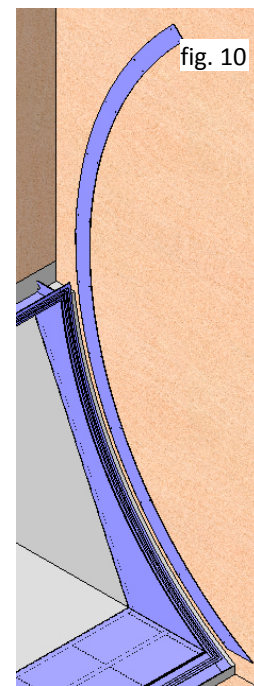

fig. 10
- Once the mouth and the bases of the turning points and the cylinder fastenings are assembled, position the rolling strips on the civil engineering work (fig. 10). It is very important to position them correctly, respecting the levels shown in the general diagram and aligning them radially relative to the turning point, since they have to coincide with the side guide wheels with the penstock both open and closed. First they must be positioned provisionally until the stopboard has been used to check they are correctly positioned, proceeding with definitive fastening once the check is complete.